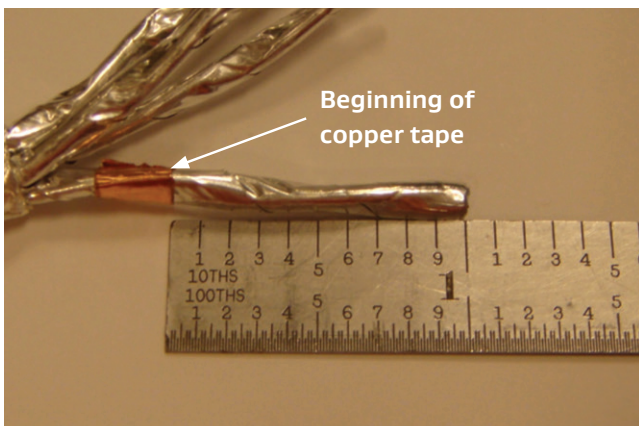

Figure 11: Wrapping the foil
6. Cut four pieces of copper tape that are 0.50-inch long. Wrap a piece of the tape around each pair 1.0 inch from the end of the cable, keeping the foil shield wrapped as tight as possible (Figure 11).